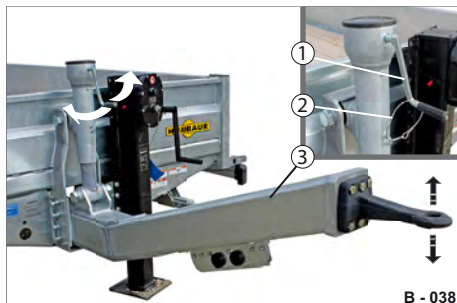

Fig. 37 Height adjustment of the draw pipe
- ▶ Unclamp the securing cable (Fig. 37/2).
- ▶ Rotate the crank (Fig. 37/1) to the left or right and adjust the height of the draw pipe (Fig. 37/3) of the pin coupling (Fig. 40/2) to the towing vehicle.
- ▶ Position the crank (Fig. 37/1) downward.
- ▶ Clamp the securing cable (Fig. 37/2). The crank is secured against turning of its own accord.